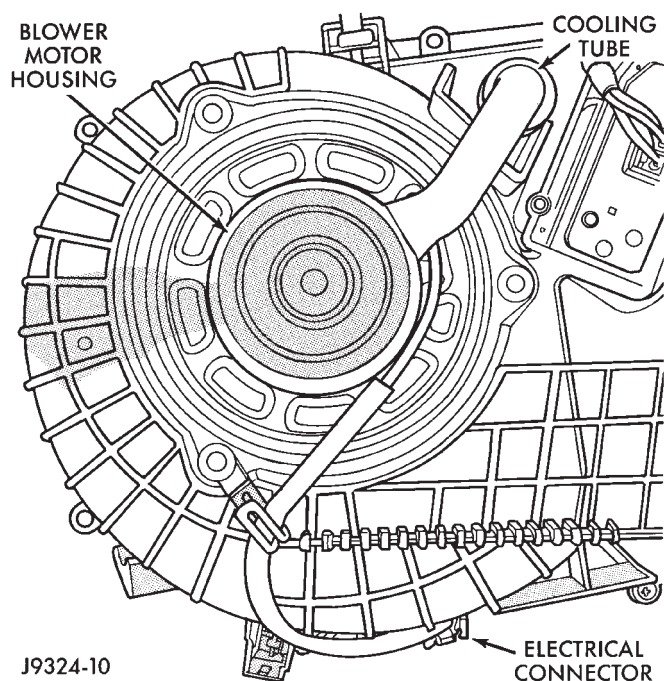

Fig. 4 Blower Motor
- (1) Disconnect the negative cable from the battery.
- (2) Disconnect the blower motor cooling tube (Fig. 4).
- (3) Remove the blower motor electrical connector from the retainer. Disconnect the electrical connector (Fig. 4).
- (4) Remove the blower motor and wheel assembly mounting screws (Fig. 4).
- (5) Remove the blower motor and wheel assembly.